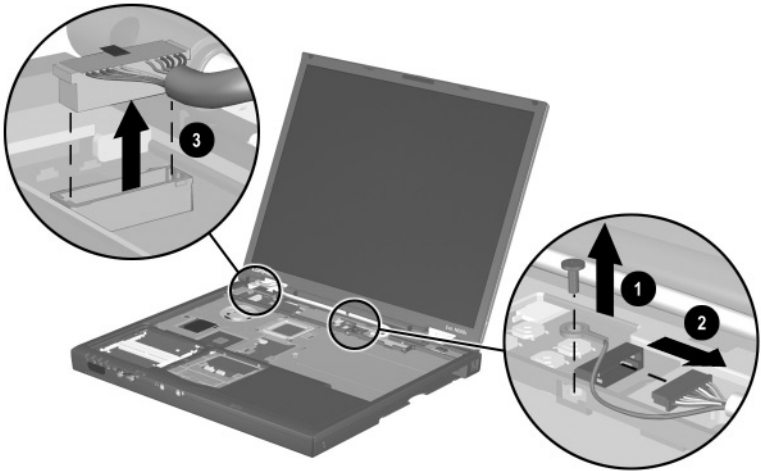

Figure 5-18. Disconnecting the Display Cables
5. Remove the TM2.5 × 7.0 screw that secures the display ground cable to the top cover ❶ (Figure 5-18).
6. Disconnect the display video ❷ and inverter cables ❸ from the system board.